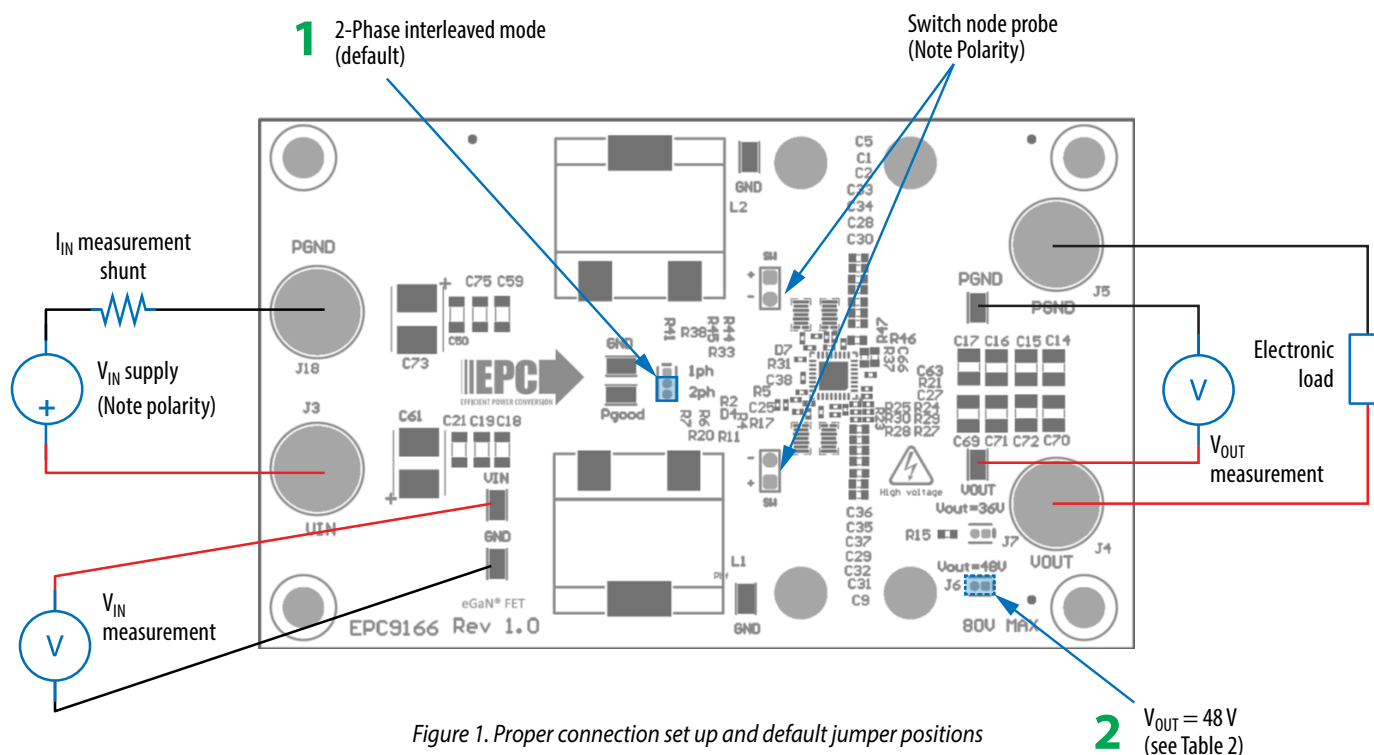

Figure 1. Proper connection set up and default jumper positions
The evaluation board EPC9166 is easy to set up to evaluate the performance of the EPC2218 eGaN FETs and directly drive from the controller IC. Refer to figure 1 for proper connect and measurement setup and follow the procedure below:
1. Configure the jumpers for phase mode the output voltage setting per figure 1 and table 2. The phase mode jumper J8 sets the 180° phase shift between the two phases in its default location (1). The output voltage is set by jumper J6 and J7 and the default location (2) sets the output voltage at 48 V.
3. With power off, connect a programmable load as needed between VOUT (J4) and GND (J5) as shown in figure 1.